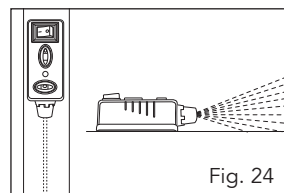

Fig. 24
1. Remove the laser adjustment screw (27). The laser (28) can now be taken off the adapter and used as an external laser level unit (Fig. 24).
2. The laser (28) is equipped with two spirit levels (29) and can therefore be adjusted both horizontally and vertically (Fig. 24). The base plate of the laser is magnetic, enabling it to be secured on suitable surfaces.